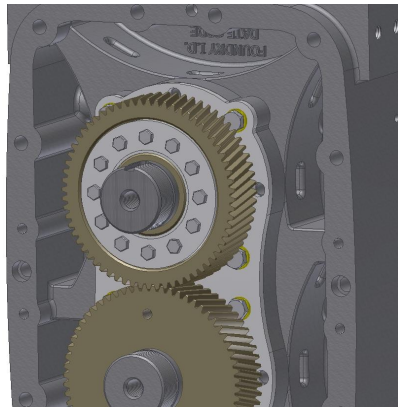

Figure 9-10 – SHRINK DISK/TIMING GEAR INSTALLATION
45. Lightly oil bolt threads, bolt head bearing areas and tapered surfaces of inner ring of shrink disk half (19).
47. Install shrink disk/timing gear assembly onto rotor shaft and align teeth so timing gear and pinion gear mesh. Firmly push against bearing inner race. Finger tighten the 12 locking bolts ensuring the gear can still be rotated on shaft. Reference FIGURE 9-10.